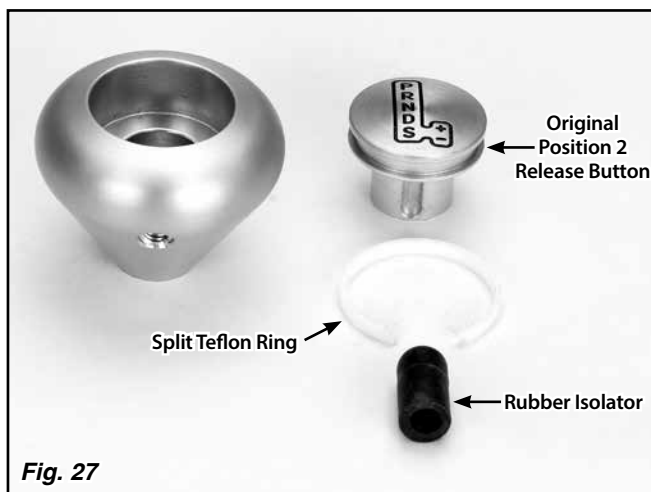

Fig. 27
**Step 12:** Remove the split Teflon™ ring from the release button. Use a pair of needle nose pliers to remove the rubber isolator from inside the release button. **Fig. 27** Install the rubber isolator into the new Position 1 release button, making sure the closed end of the rubber isolator goes into the button first.